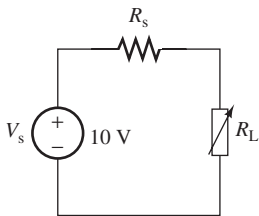

FIGURE P3.77 Circuit for Problem 3.77.
- 3.77** (H) For the circuit shown in Figure P3.77, draw a graph of the maximum output power of R_L when R_s changes from $1\ \Omega$ to $100\ \Omega$. R_L is adjustable.